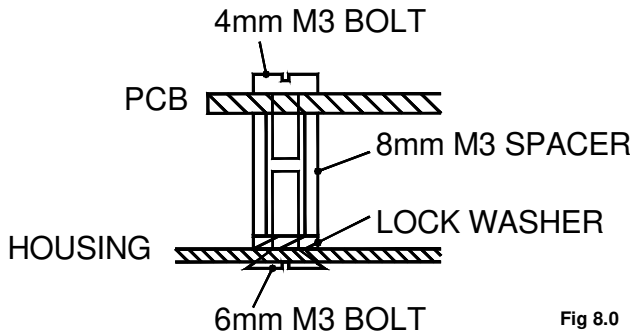

Fig 8.0
- Mount the 3 threaded rods on the bottom of the housing, together with a tooth lock washer and M3 countersunk-head bolts (see figure 8.0).